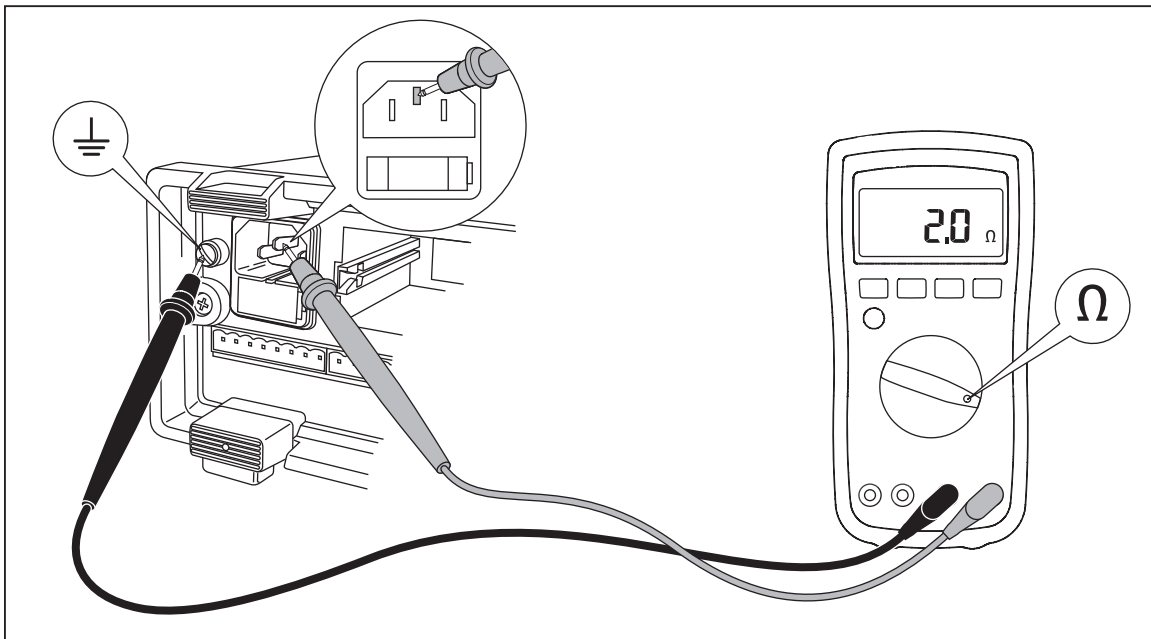

Figure 1. Continuity Test
3. Using a multimeter, check the resistance from the center (earth ground) pin of the instrument power socket to the chassis ground terminal. See Figure 1.